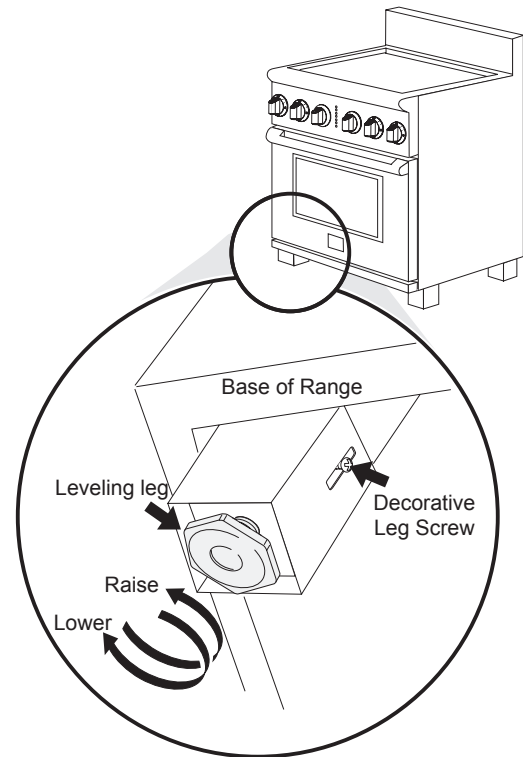

Figure 21: Adjusting appliance height
3. Level the range, if necessary, by adjusting the 4 leg levelers with a wrench (Figure 21).